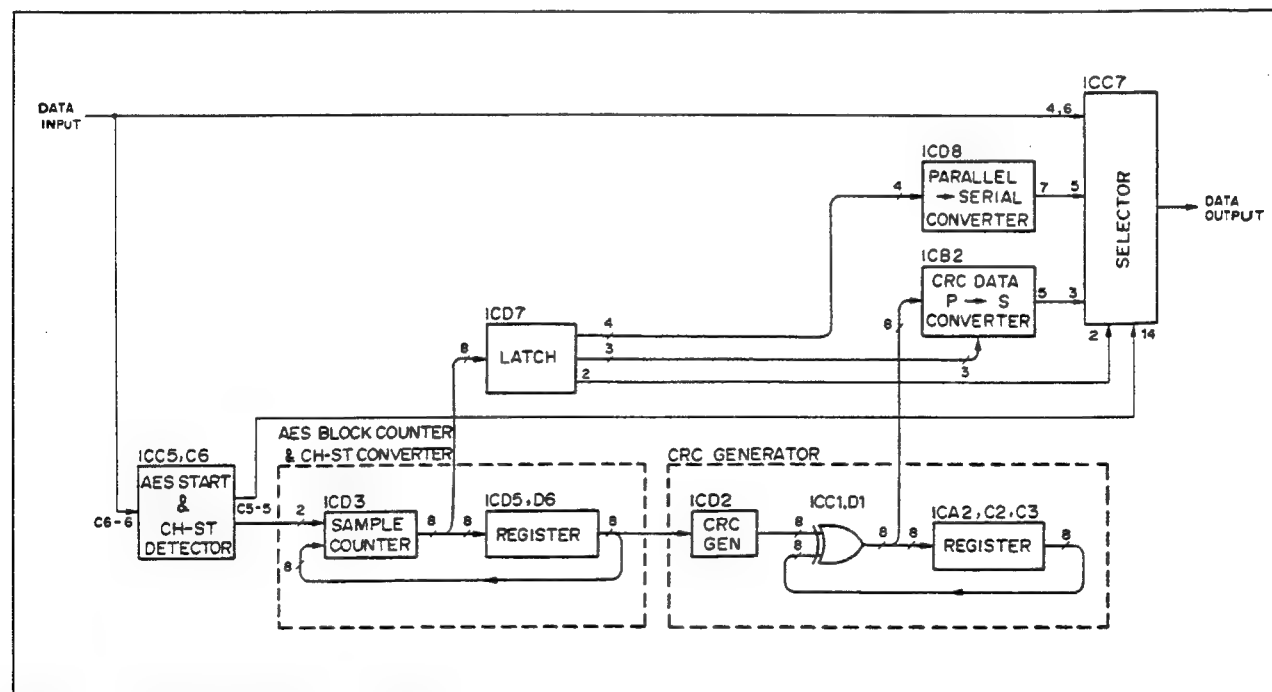

Fig. 3-10-13. CRC Generator (AN-01 Board)
Fig. 3-10-13 is a block diagram of the CRC generator. This circuit is composed of counter ICD3, D5 and D6 which show the bit positions of the channel status data, CRC generator ICA2, C1, C2, C3, D1 and D2, and their peripheral circuits. ICD3 is a sample counter in the AES/EBU block which outputs (N+1) when it receives input (N). The bits of the channel mode data changed in response to the mode setting are also output from ICD3.